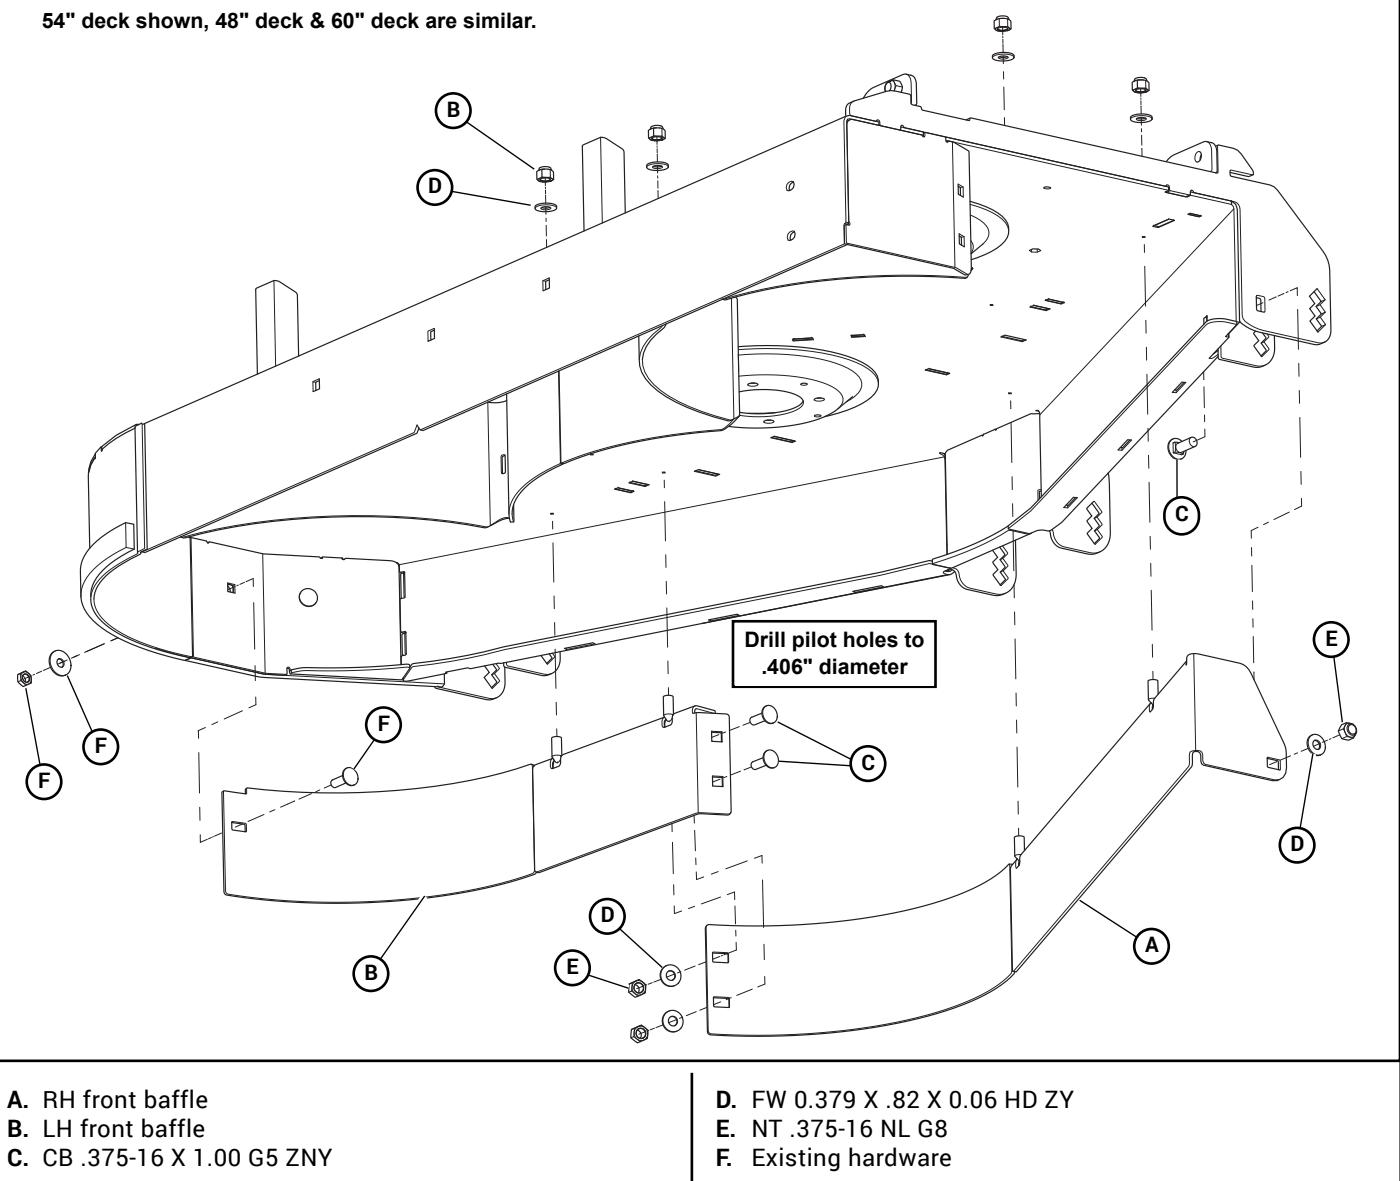

Figure 3-3
5. Attach the front left baffle to the top of the deck. Use the hardware shown, attach the baffle to the left bumper with the existing hardware. Figure 3-3